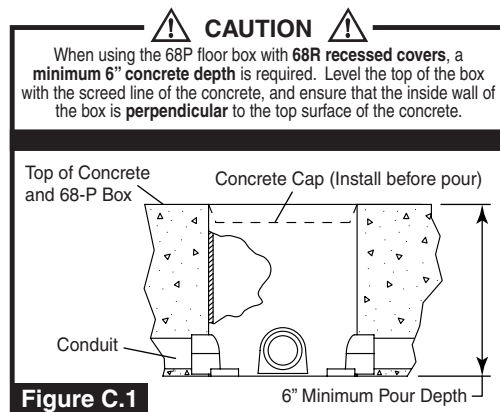

Figure C.1
- 1) Install box in concrete as shown (in Figure C.1), leveling the top of the box with the screed line of the concrete.